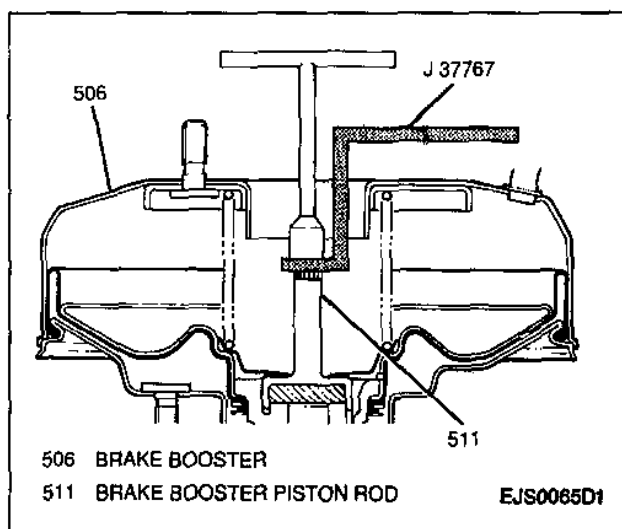

Figure 6—Installing J 37767 Onto Brake Booster Piston Rod
- Brake booster piston rod length. Hold brake booster piston rod in place with the J 37767 (Figure 6). Turn the 7 mm brake booster piston rod adjusting nut until it touches the J 39567 pin head.